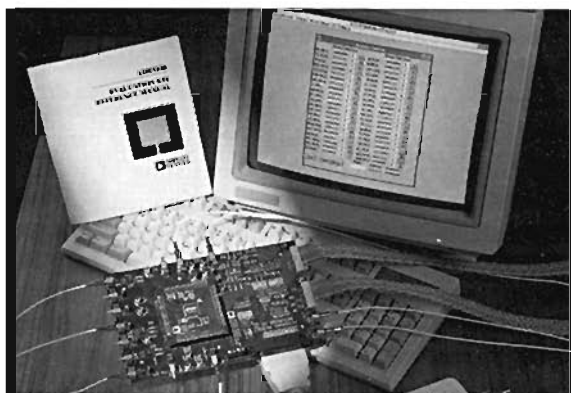

Figure 4. Photograph of evaluation kit.
**Evaluation board with Windows Software:** Lab experiments and characterization of the part are simplified by the availability of an evaluation kit. The kit includes National Instruments' LabView®-based software for evaluating the ADRS120 with either a spin stand or on a stand-alone basis. The evaluation board plugs into the parallel port of a 486 (or Pentium class) PC running Windows™. The board provides all the components necessary to operate any member of the ADRS1xx family (Figure 4).